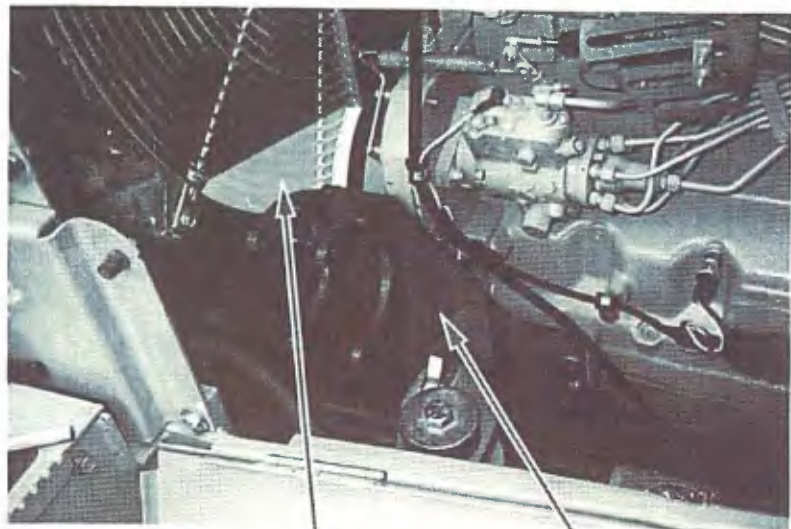

Figure 1
1. On some vehicles it is necessary to modify the fan guard to provide clearance for drive pulley, drive belt and compressor pulley. See figure 1.
4. Attach compressor mount to engine using two M12 screws and one M16 screw provided in kit. See figure 1.